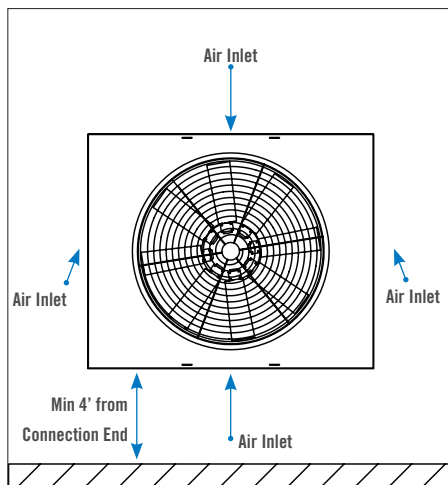

Figure 1. Plan View of Recommended Unit Servicing and Maintenance Spacing
4. Provide adequate space around the unit for piping and proper servicing and maintenance, as shown in **Figure 1**.